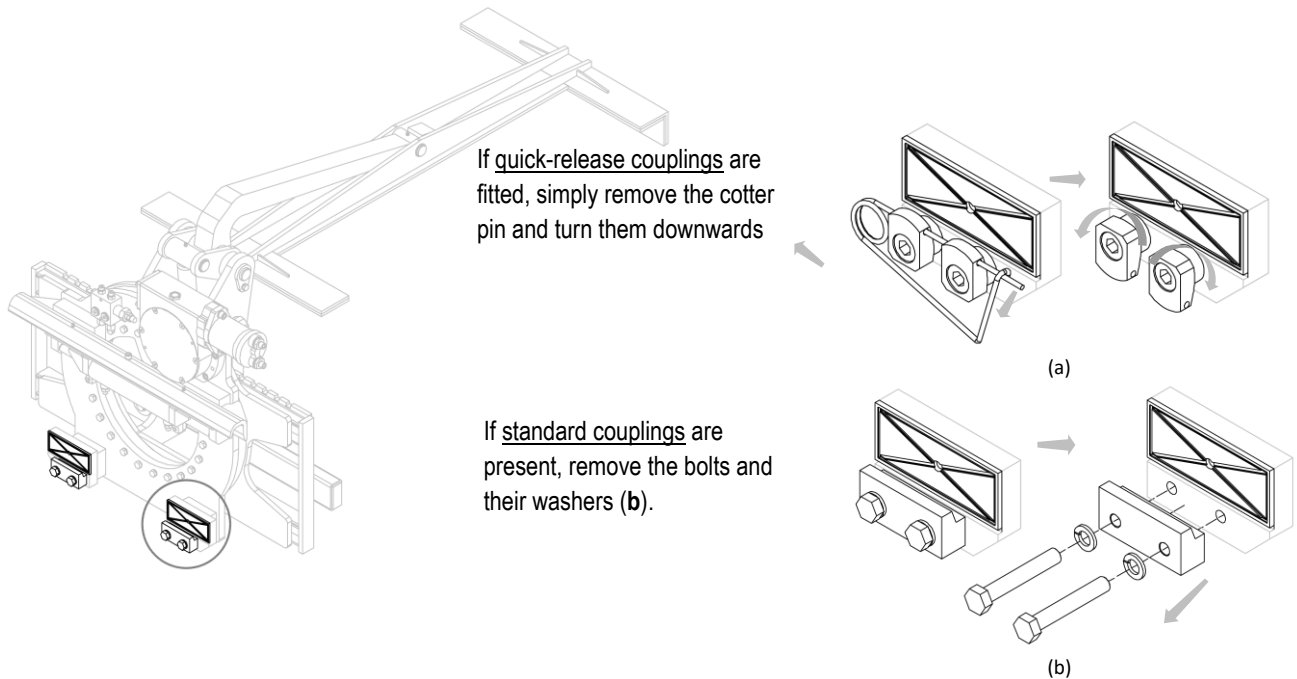

Figure 7
5. Remove the lower couplings from the equipment and grease the sliding gibs (see *Figure 7* ↗).
2. Remove the lower couplings from the assembly (see *Figure 2 and Figure 7* on page *10 and 15*).